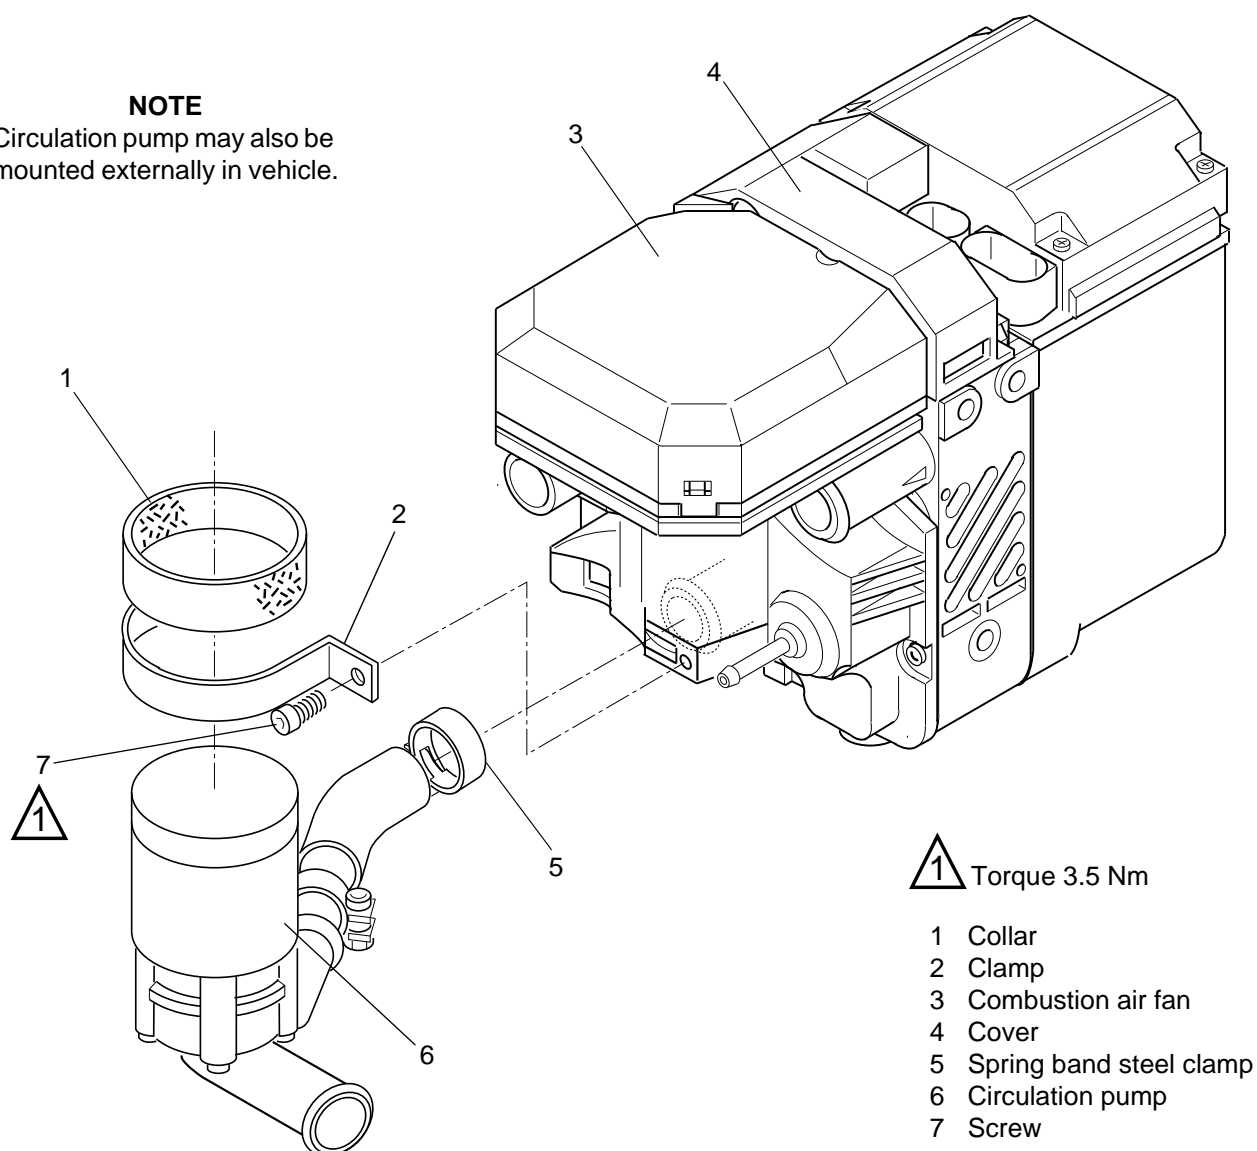

Fig. 901 Replacement of Circulation Pump (Thermo Top C)
1. Remove cover (4, Fig. 901) and disconnect electrical connector of circulation pump.
2. Loosen spring band steel clamp (5, Fig. 901).
3. Remove screw (7) and clamp (2).
4. Withdraw circulation pump (6) and remove spring band steel clamp (5).
5. Withdraw collar (1) as required.
1. Slide spring band steel clamp (5, Fig. 901) onto hose end.
2. Position collar (1) on circulation pump (6) as required.
3. Locate circulation pump (6) for installation and secure with clamp (2) and screw (7) on combustion air fan (3).
4. Position spring band steel clamp (5).
5. Torque screw (7) with 3.5 ± 0.3 Nm.
6. Connect circulation pump electrical connection and fit cover (4).